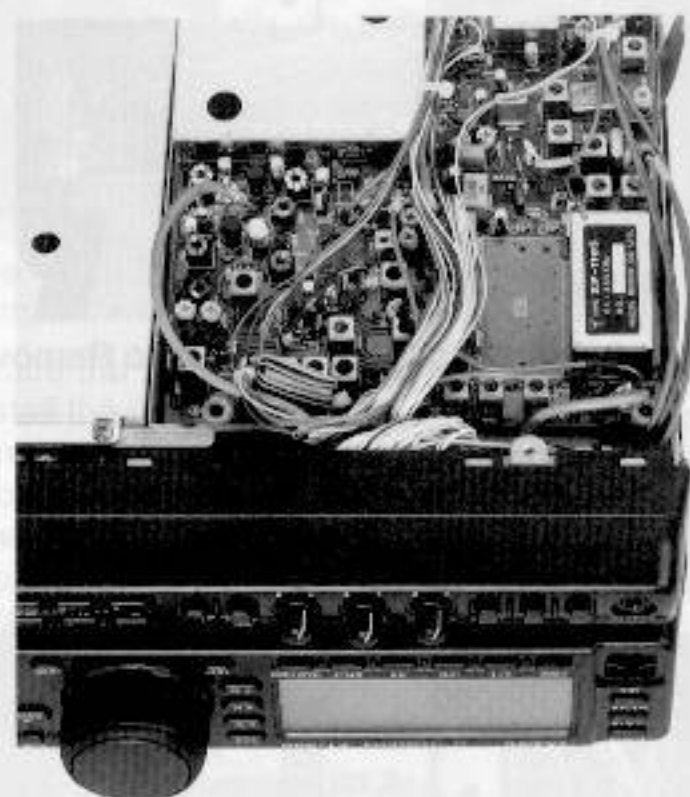

Figure 11
- If installing the XF-110S for SSB and AM narrow, refer to Figure 11, lift the rear edge of the board and carefully unsolder and remove the ceramic filter. Straighten the new filters' leads, if necessary. Then position each filter as indicated in the photos, and push the filter leads through the board.